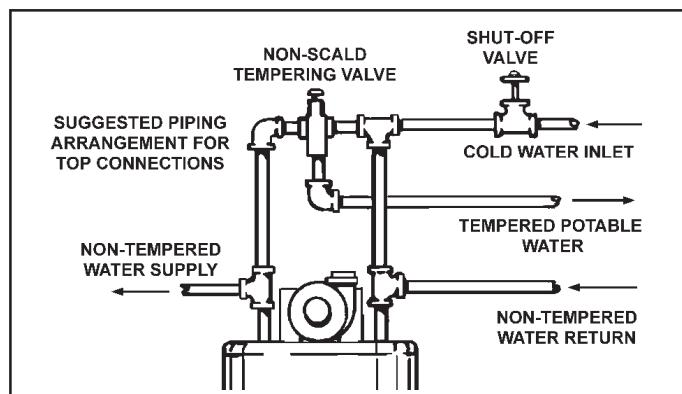

FIGURE 2.
- When the system requires water for space heating at temperatures higher than required for domestic water purposes, a tempering valve must be installed. Please refer to Figure 2 for suggested piping arrangement.